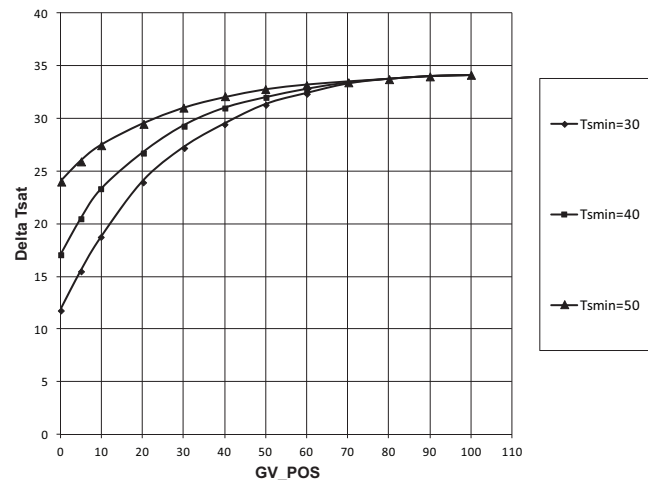

Fig. 36 — Effect of SURGE/HGBP DELTA TSMIN on Surge Prevention
- Surge/HGBP Delta T_{min} is the minimum difference between cooler and condenser saturation temperatures. (See Fig. 36.)